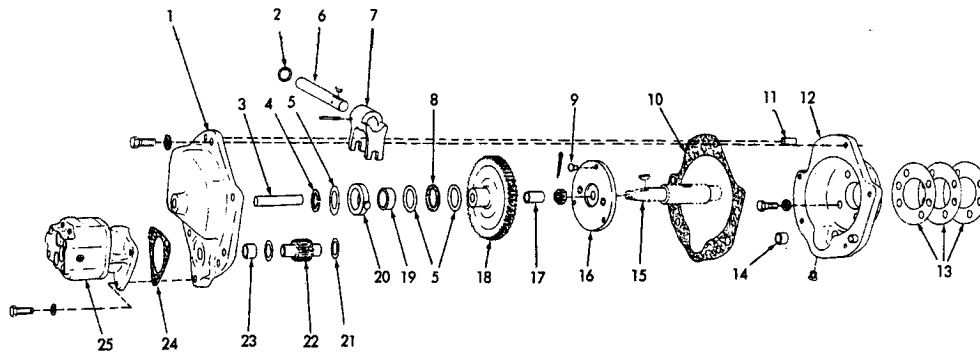

Fig. 19 -- Pump Drive Components
If pump drive appears to be damaged, remove front housing, Fig. 19 and repair or replace necessary parts; reinstall front housing.
- e. Clean mating surface of pump and pump drive front housing, Fig. 19; install pump (with new gasket). Connect pump hoses; install transmission bottom guard.